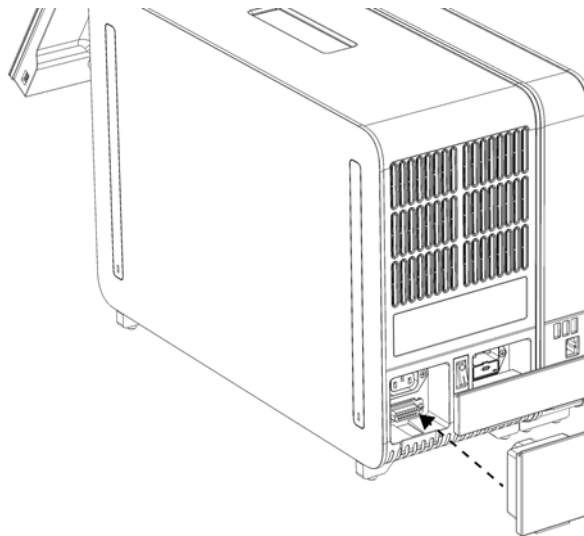

Figure 9. Connecting the Termination Bridge.
6. Connect the Termination Bridge at the back of the Analytical Module (Figure 9).